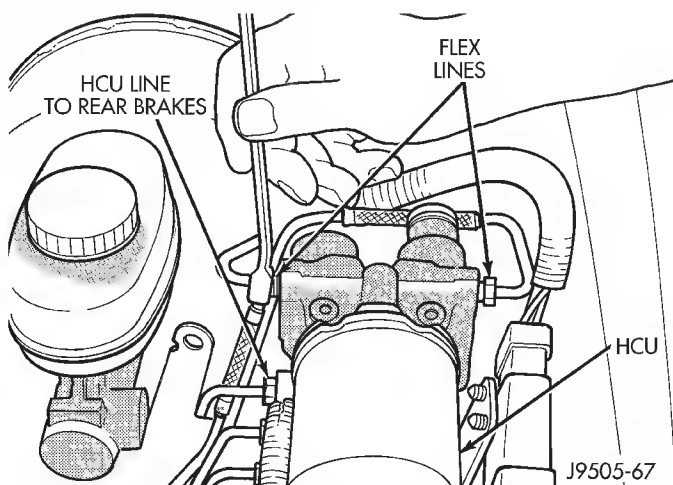
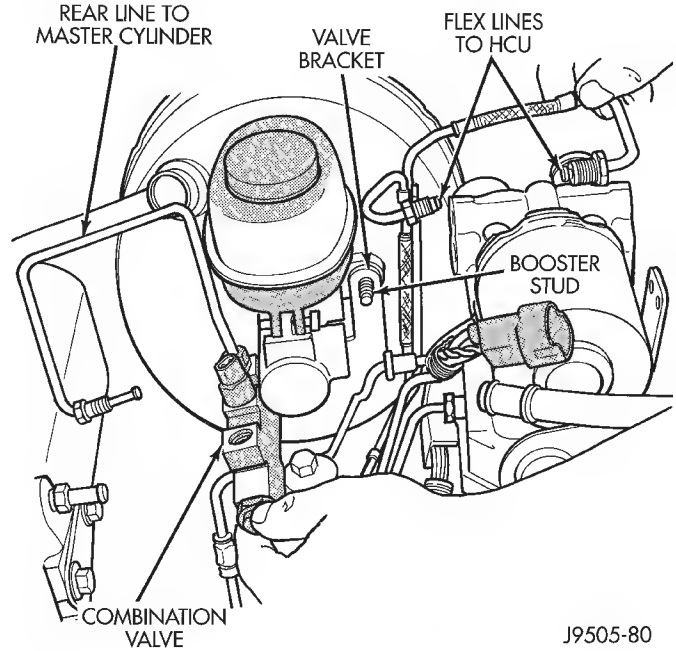

Fig. 10 Location Of HCU Flexlines And HCU Line To Rear Brakes
Fig. 25 Combination Valve Installation
(12) Disconnect rear brakeline at HCU (Fig. 10).
(13) Disconnect both flex brakelines at HCU (Fig. 10).
(14) Disconnect HCU line to rear brakes at HCU port (Fig. 10).
- (16) Install combination valve as follows:
- (b) Slide combination valve bracket onto booster stud closest to driver side fender (Fig. 25). Then install bracket attaching nut but do not fully tighten nut at this time.
- (17) Swing rear brakeline around and connect it to master cylinder. Then install and connect front brakeline to combination valve and master cylinder. Start brakelines by hand to avoid cross threading.
- (18) Tighten combination valve bracket attaching nut to 25 N·m (220 in. lbs.) torque.
- (19) Install dip on lines from master cylinder to combination valve.
- (20) Connect wire to pressure differential switch on combination valve.
- (21) Connect flex lines to HCU (Fig. 10). Start line fittings by hand to avoid cross threading. Then tighten fittings snug but not to required torque at this time.